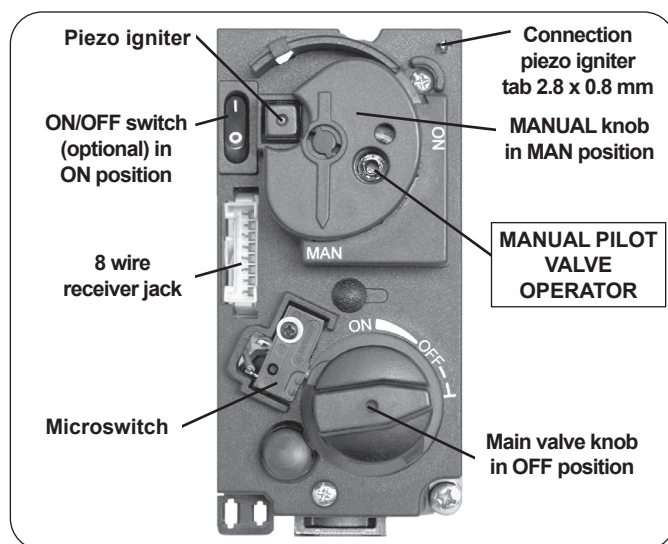

Fig. 8-1 Combination control, cover
5. Wait five (5) minutes to clear out any gas. Verify that no gas is in the area around the appliance, including near the floor. **If you detect gas STOP! Follow "WHAT TO DO IF YOU SMELL GAS" in the safety information on page 1.** If no gas is present, proceed to step 6.
8. Using a small screwdriver (or similar), fully push down manual pilot valve operator and hold in, to start pilot gas flow (see Fig. 8-1).